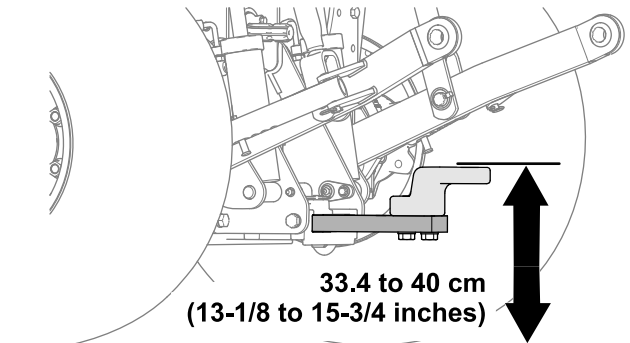

Figure 21
- Working height: 33.4 to 40 cm (13-1/8 to 15-3/4 inches); refer to Figure 21.